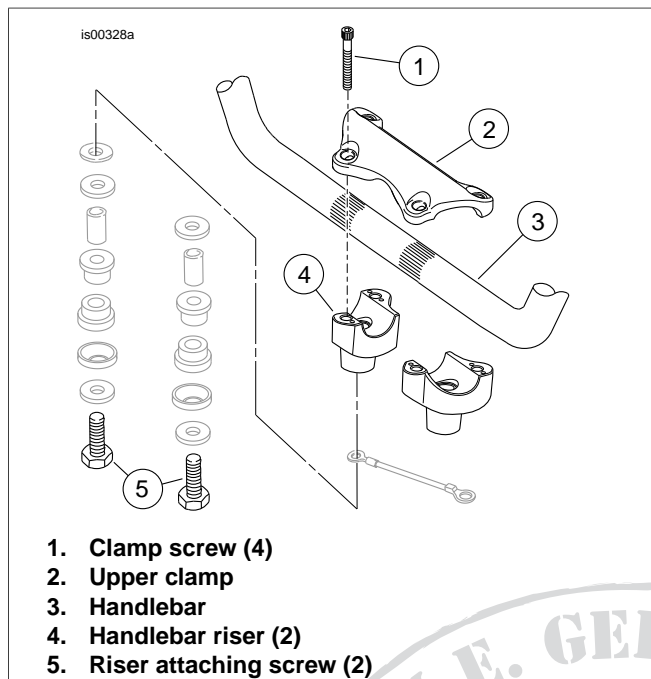

Figure 1. Handlebar Clamp and Risers
20. See Figure 1. Remove the screws (1) that fasten the handlebar upper clamp (2) to the risers (4), and remove the clamp. Remove the handlebar (3).